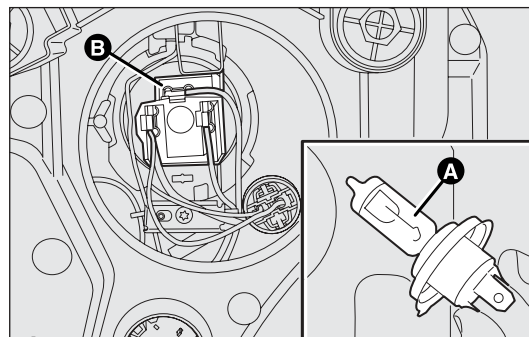

fig. 162
- ☐ disconnect the central electric connector B-fig. 162 and release the bulb holder catch;